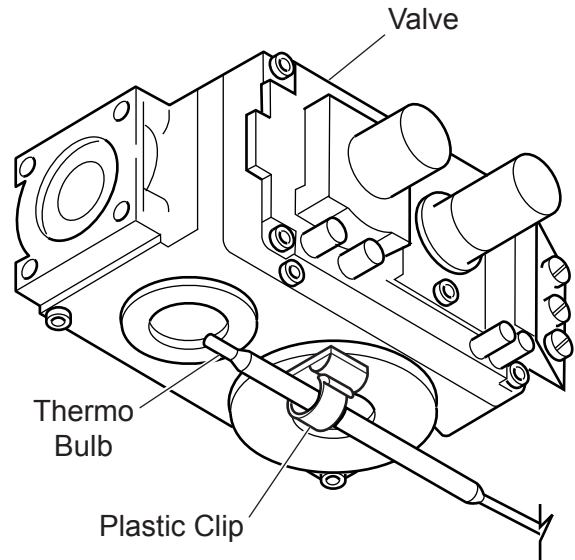

Figure 13 - Clipping Thermo Bulb into Plastic Clip.
4. Remove adhesive backing from plastic clip. Press clip to bottom of valve. Clip thermo bulb into plastic clip. *See Figure 13.*
6. Install knob to shaft of t-stat sensor. *See Figure 13, page 17.*